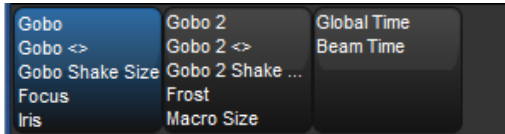

Figure 6.7. The Wheelsets Toolbar for a Studio Spot 575
2. If the selected fixture has more parameters of the selected type than there are wheels, the Wheelsets Toolbar will open; see *Figure 6.7, “The Wheelsets Toolbar for a Studio Spot 575”*. Page through the available